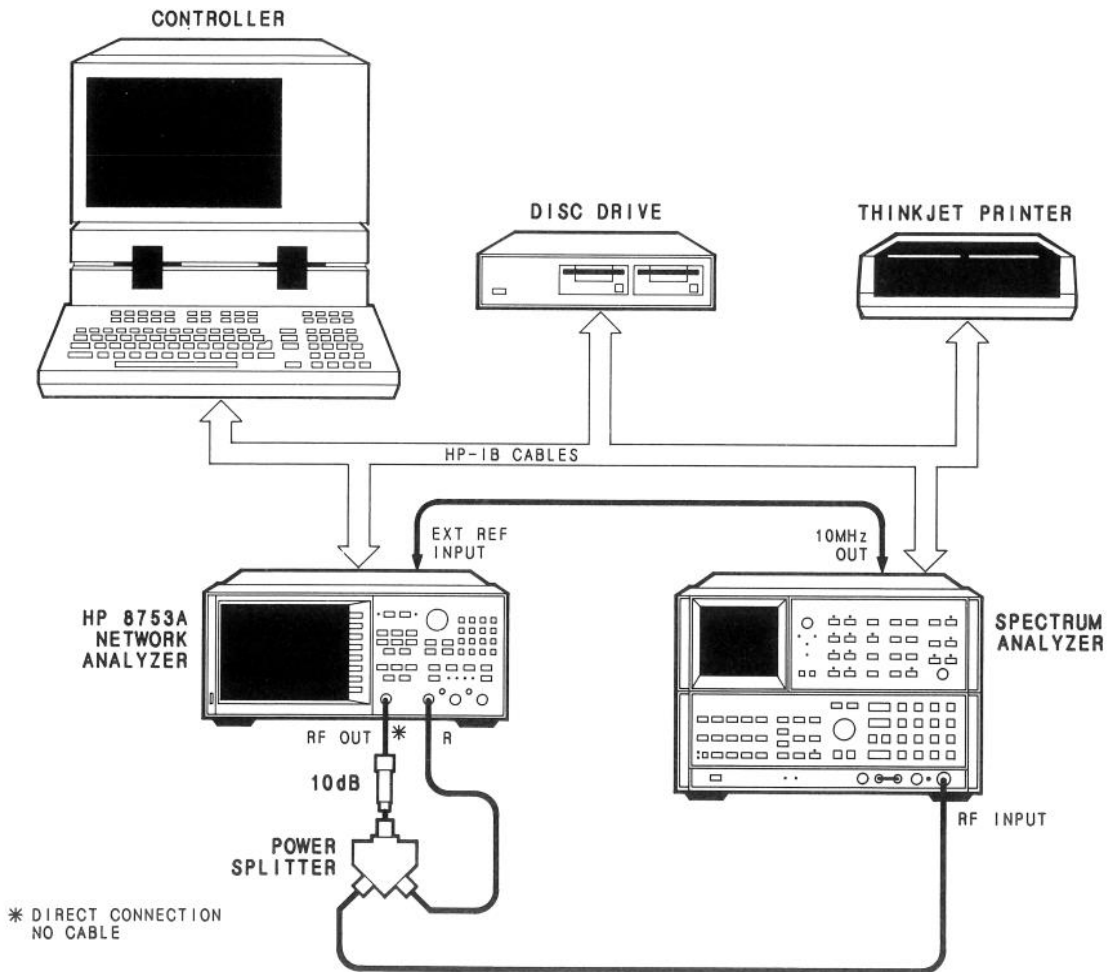

Figure 12. Fractional-N Spur and FM Sideband Adjustment Setup.
1. Connect the equipment as shown in Figure 12.